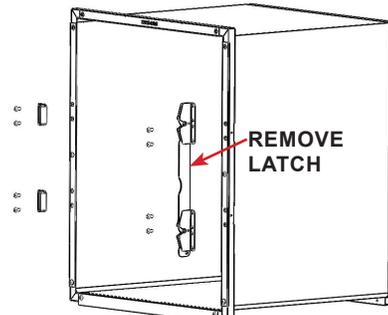

FIGURE 3.4 - Latch Assembly Removal
STEP 3: Remove the latch assembly from the right side of the cage frame by removing the screws. See FIGURE 3.4